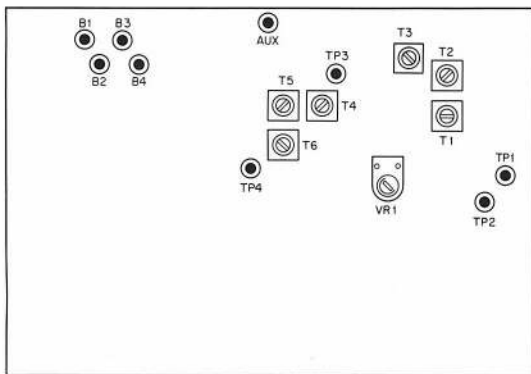

Fig. 41 PD unit
- 1) Connect the detector to TP1 (or TP2) in PD unit (X50-1340-00) and connect its output to the oscilloscope (refer to **Fig. 41**).
Apply a signal of 8.83 MHz within 106 to 108 dB from SSG between connector terminals CIB and GND and adjust VR1 until the output of RF VTVM connected to TP1 (or TP2) becomes minimum dip (refer to **Fig. 41**).